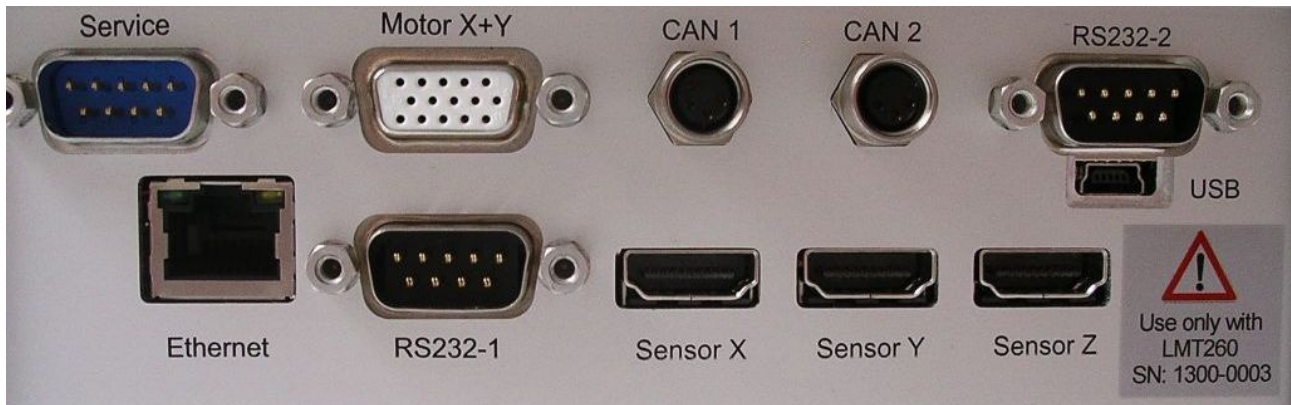

Fig. 6.5 Connector side of the Hydra DT LMT260 controller
The corresponding serial numbers are specified on the label that is affixed in the right-hand lower corner on the connector side of the Hydra DT LMT260 controller. See also Fig. 6.5.
- Check the serial number (SN) of the LMT260 using the SN that is specified on the Hydra DT LMT260 (connector side). See also Fig. 6.5.